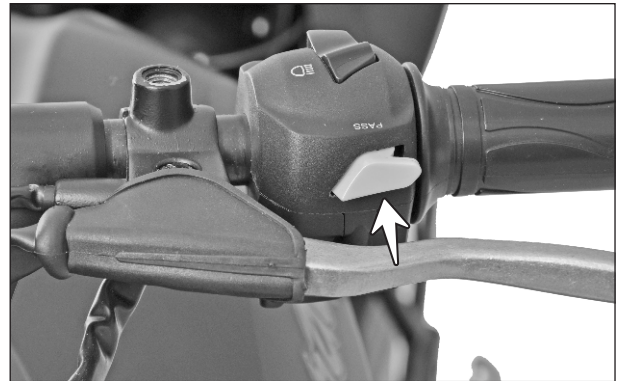

Fig. 5.20
- Pass-by switch is provided on the switch assembly handle LH on the left side of the handle bar. (Fig. 5.20)